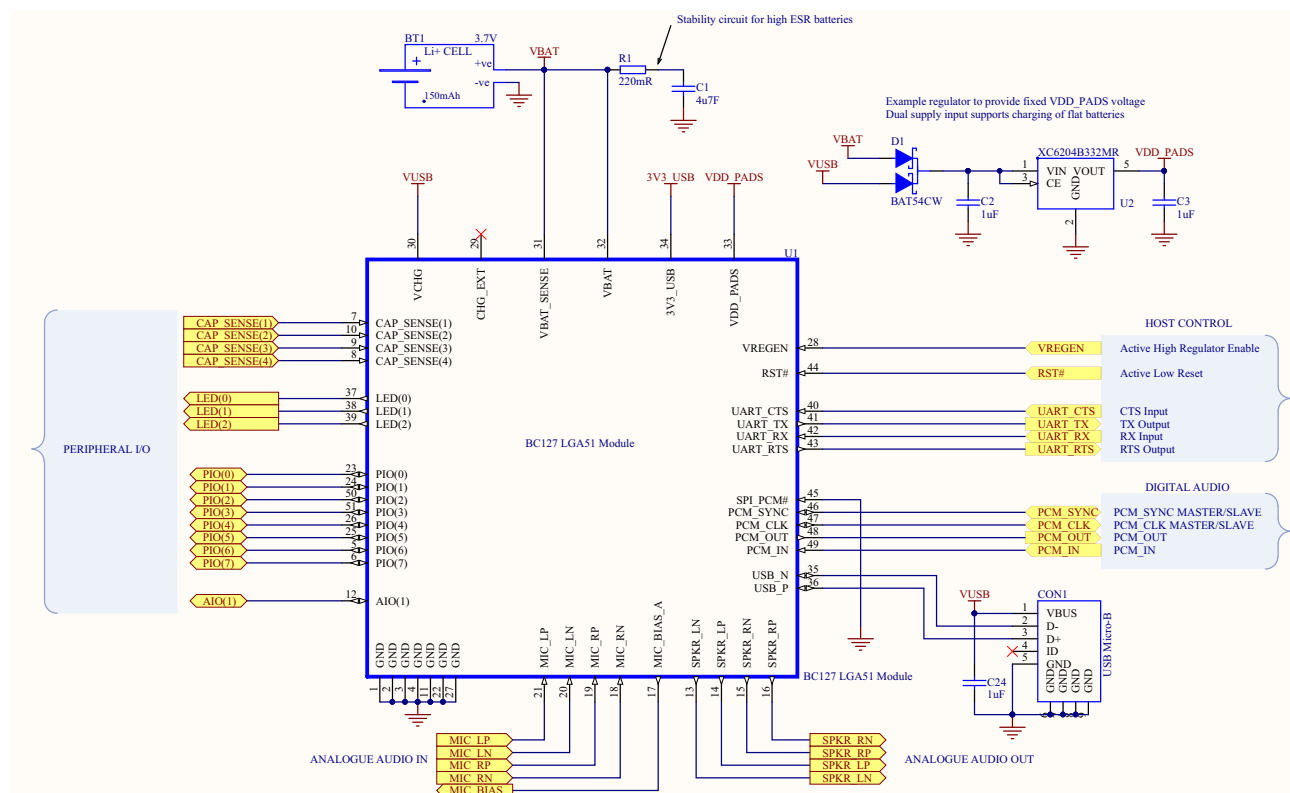

Figure 3-1: BC127 Battery Supply Internal Charger
Figure 3-1 describes a typical battery-operated circuit used for headset applications.
- VDD_PADS voltage is generated from VBAT and/or VUSB using a diode OR arrangement to drive the input of an external LDO regulator as shown in Figure 3-1. This dual input approach supports the charging of discharged batteries.
To charge the battery, an external source connected to VCHG input is required, as shown in Figure 3-1. This source is provided by a USB Interface, connecting VUSB to VCHG to provide the source for the battery charging circuit.